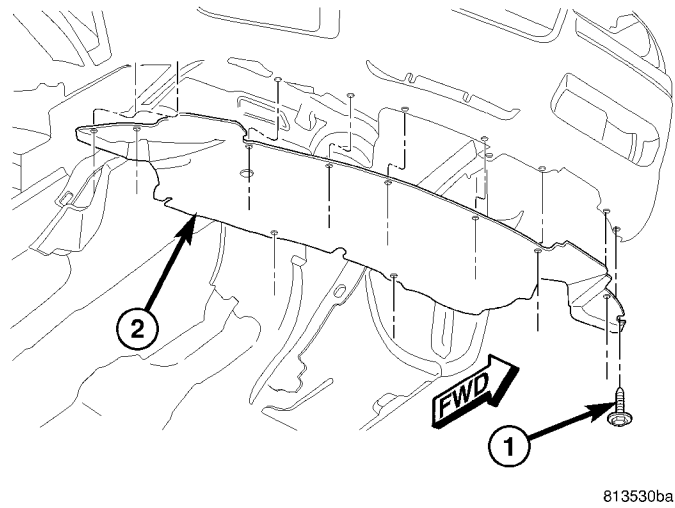

Fig. 2 BELLY PAN
- 1 - PUSH PINS (3) THAT SECURE WHEEL HOUSE TO FASCIA
6. Remove the nine screws that secure the belly pan to the underbody (Fig. 2).